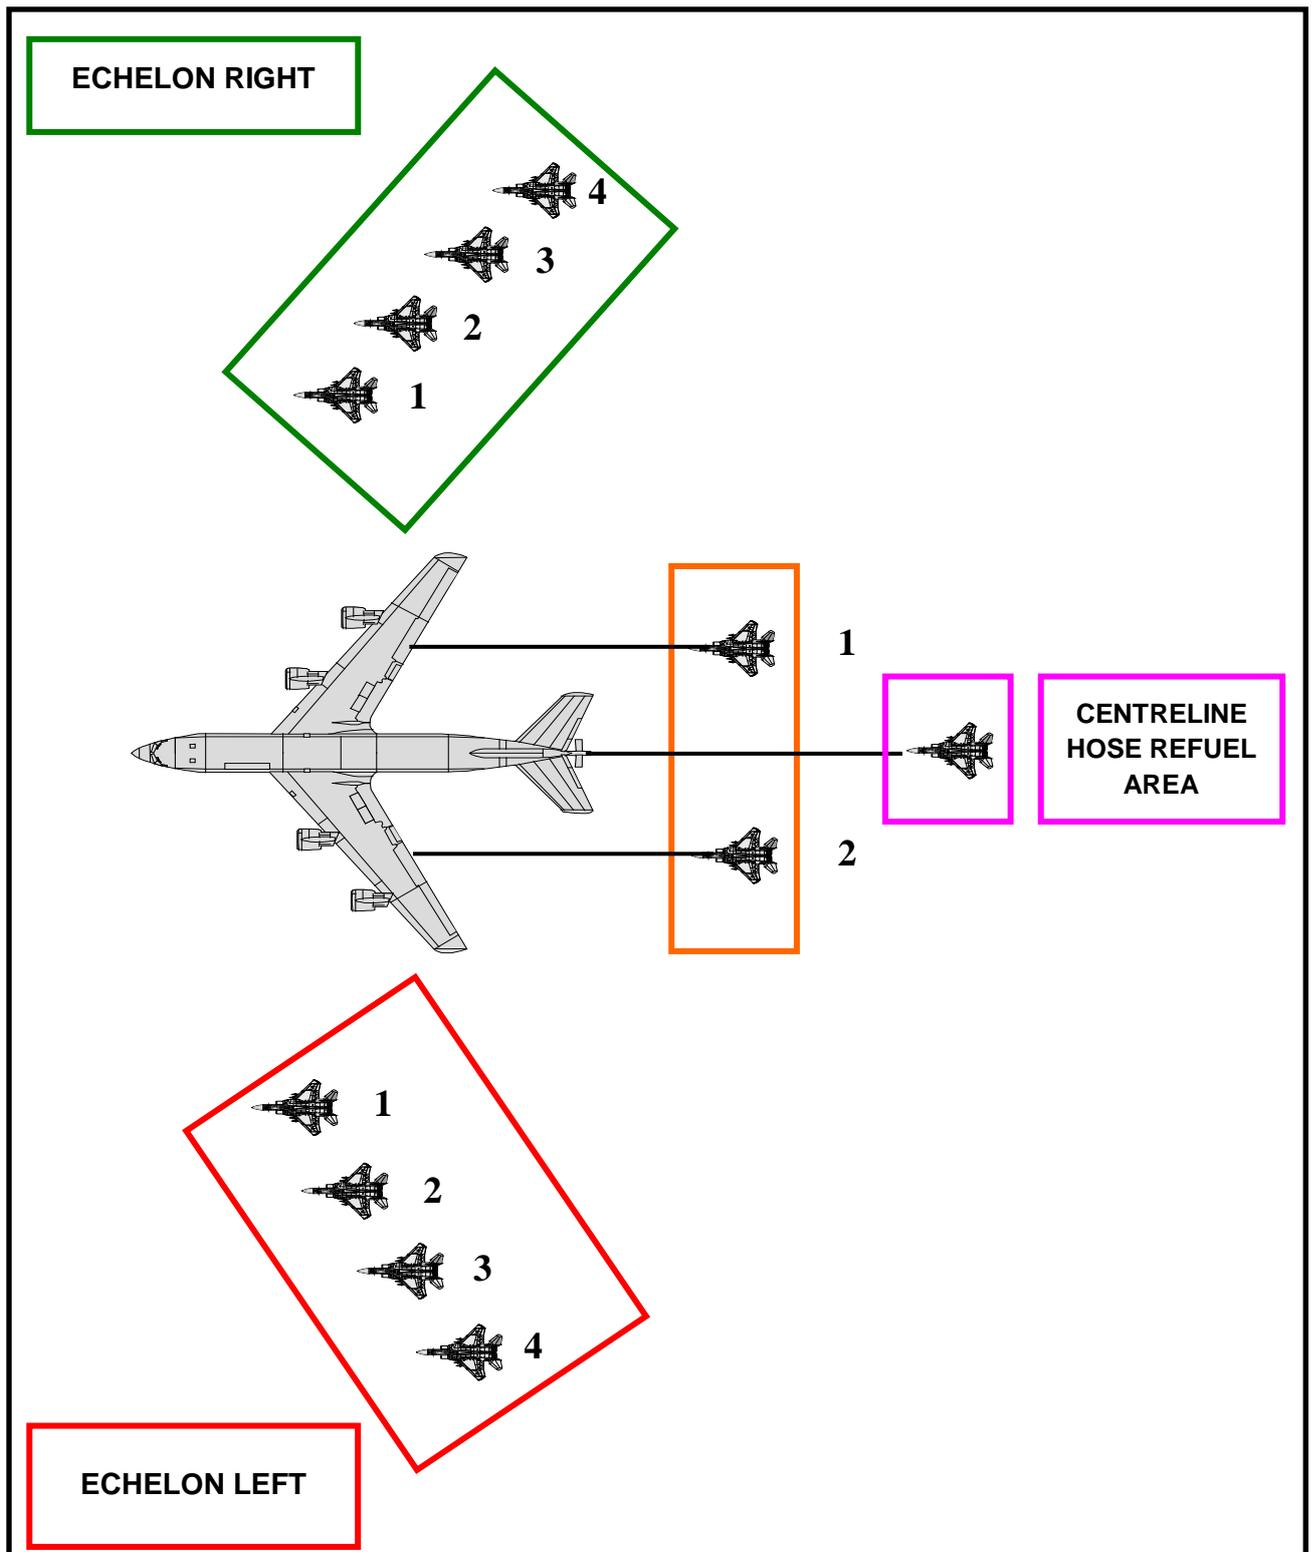

Figure 2-1. Diagram of Key Areas Around a Probe and Drogue Tanker Without an Aft Observer
- (1) **Tankers Without Refuelling Observers.** Where the tanker has no rearward facing observers, the receivers must move forward ahead of the wingline to the Echelon Left position in order to be seen and identified by the tanker pilots. See Figure 2-1.